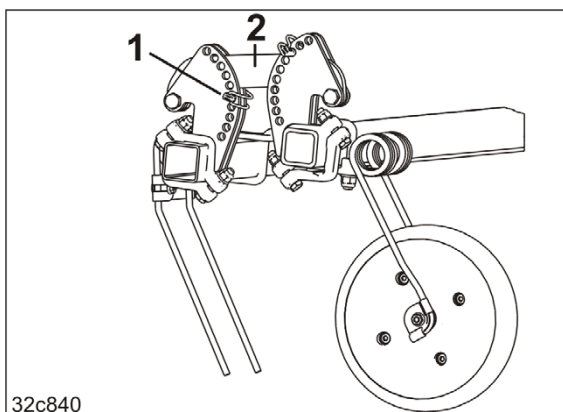

Fig. 139
3. Change the pitch of the tines to the ground by repositioning the safety pin for the tube (Fig. 139/1)
- o below the link (Fig. 139/2),
The deeper the safety pin for the tube (Fig. 139/1) is inserted in the adjuster segment, the flatter the pitch.